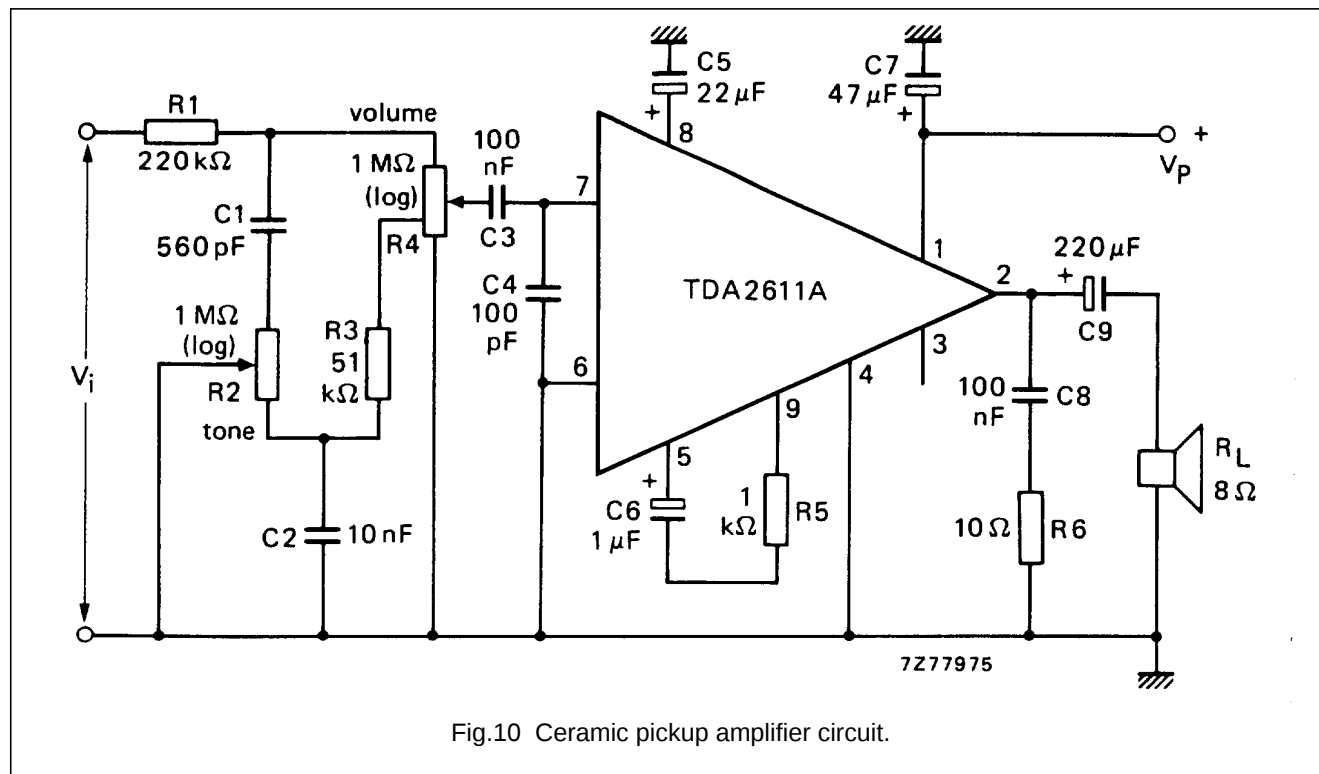

Fig.10 Ceramic pickup amplifier circuit.
- - - without tone control; in circuit of Fig. 10; typical values.